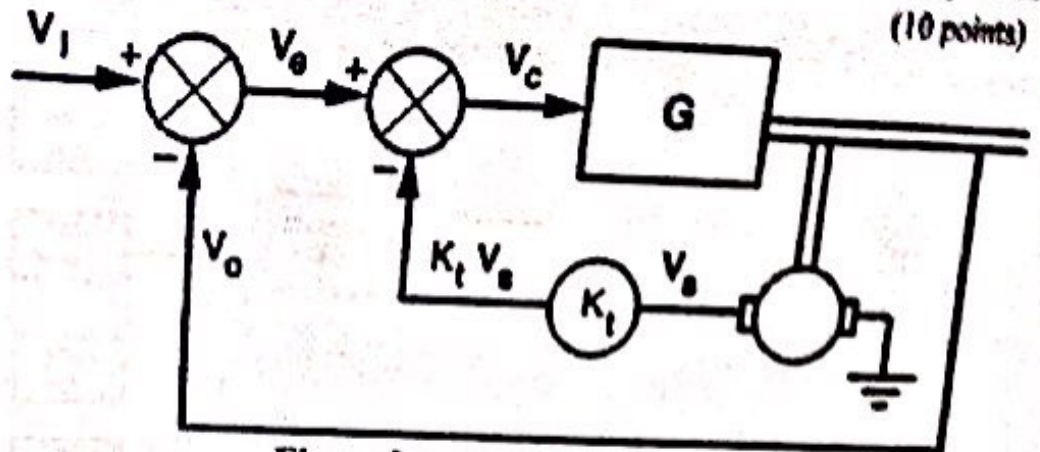

Figure 3.
Q3. Figure 3 shows the block diagram of a closed loop control circuit, which was part of the DC servo experiment: (10 points)
1. The name of the system that can be obtained when you connect the control circuit shown in Figure. 3 is _____.
2. Connect the Analogue Unit shown in Figure 4 in order to have the same control system that is shown in Figure 3.